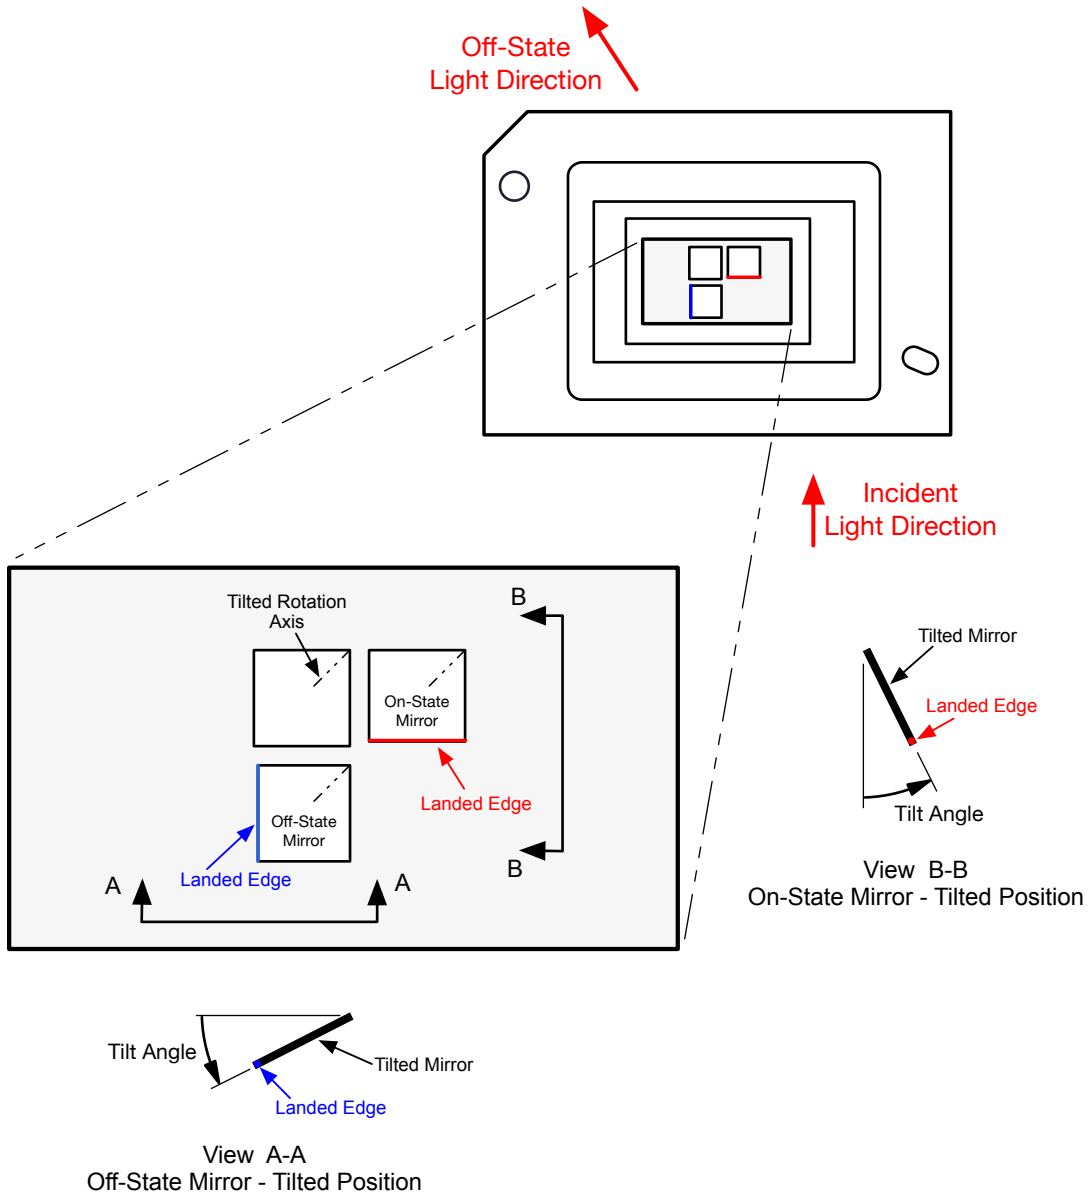

Figure 6-10. Micromirror Landed Orientation and Tilt
- (1) Measured relative to the plane formed by the overall micromirror array
- (2) Represents the variation that can occur between any two individual micromirrors, located on the same device or located on different devices.
- (3) For some applications, it is critical to account for the micromirror tilt angle variation in the overall system optical design. With some system optical designs, the micromirror tilt angle variation within a device may result in perceivable non-uniformities in the light field reflected from the micromirror array. With some system optical designs, the micromirror tilt angle variation between devices may result in colorimetry variations, system efficiency variations or system contrast variations.
- (4) When the micromirror array is landed (not parked), the tilt direction of each individual micromirror is dictated by the binary contents of the CMOS memory cell associated with each individual micromirror. A binary value of 1 results in a micromirror landing in the ON State direction. A binary value of 0 results in a micromirror landing in the OFF State direction. See Figure 6-10.
- (5) The time required for a micromirror to nominally transition from one landed state to the opposite landed state.
- (6) The minimum time between successive transitions of a micromirror.
- (7) An out-of-specification micromirror is defined as a micromirror that is unable to transition between the two landed states within the specified MICROMIRROR SWITCHING Time.
- (8) Efficiency numbers assume 35-degree illumination angle, F/2.4 illumination and collection cones, uniform source spectrum, and uniform pupil illumination.